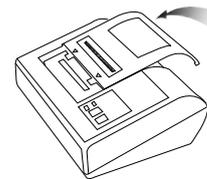

Figure 2-2. Shows the correct action
(1) Push forward the removable cover plate with both thumbs. (Note the arrow on cover plate. See Figure 2-2) Then take off cover plate carefully.